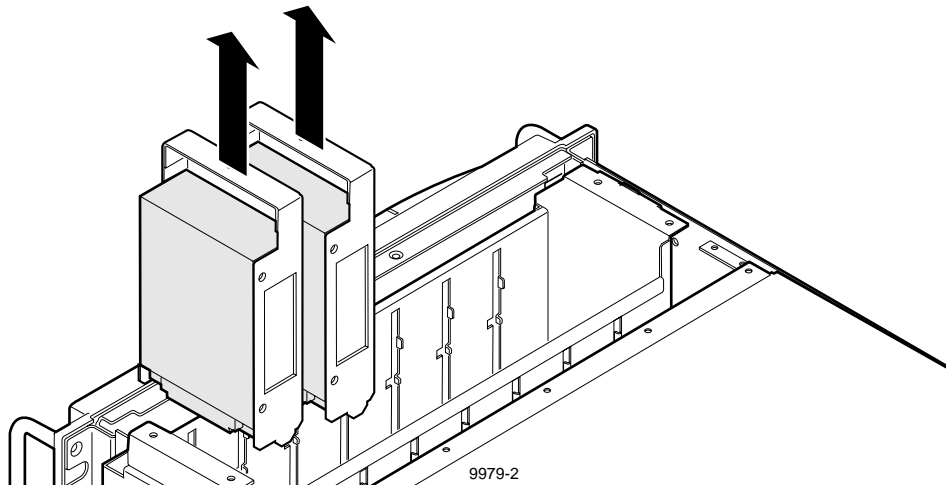

Figure 3. Removing Disk Drive Caddies
To remove these disk drives, pull up on the caddies, lift them out of the chassis and place on a static-free surface. See Figure 3.
2. Being sure to observe the connector orientation, reinstall the disk drives previously removed by sliding the drive caddy into the drive tray and firmly pressing down to connect the drive connector to the SCSI Backplane (Figure 3, page 6).